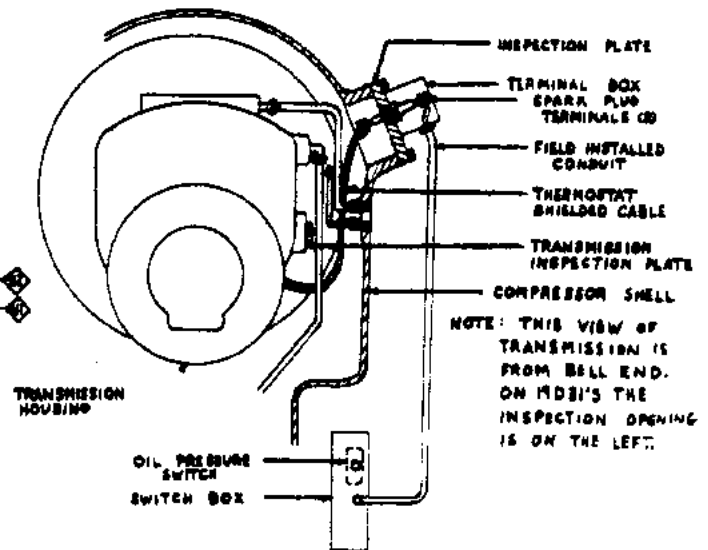

FIG. 2 COMPLETED ASSEMBLY
13. Install  $1/2$ " conduit from terminal box to oil pressure switch terminal box as shown in Figure 2 and insert 16 - 18 gage wire. Figure 2 depicts a typical 19D21 machine. On 19D11 and 19D31 machines the oil pressure switch box is on opposite side of the compressor.